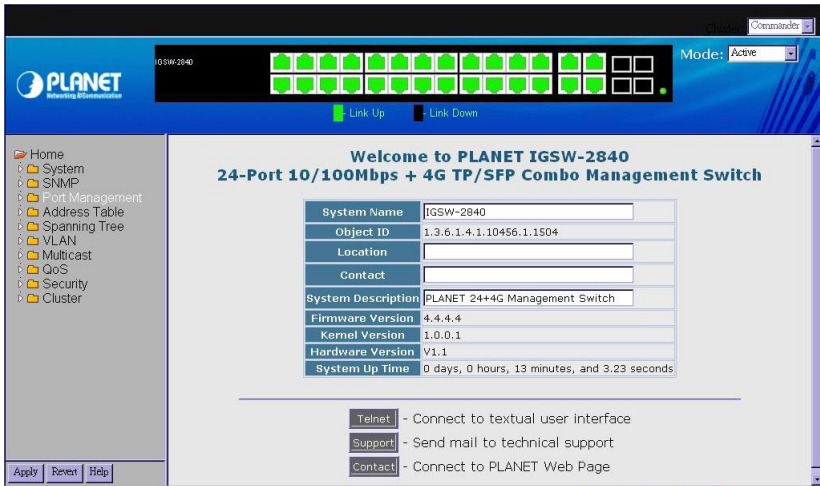

Figure 6-3 Web Main Screen of Industrial Managed Switch
3. The main screen appears after entering the username and password, as Figure 6-3.